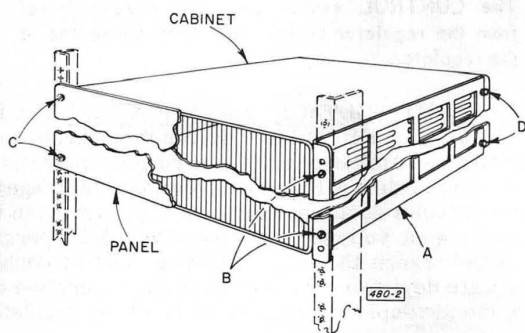

Figure 2-1. Installation of relay-rack models.
- Attach each mounting bracket (A, Figure 2-1) to the rack; use the two No. 12-24 roundhead screws (B) in the inside holes on the brackets.
- Insert the four panel screws (C) with attached washers through the panel and the bracket and thread them into the rack. The washers protect the face of the instrument.
- Toward the rear of each bracket, put a thumb-screw (D) through the slot in the bracket and into the hole in the side of the cabinet.